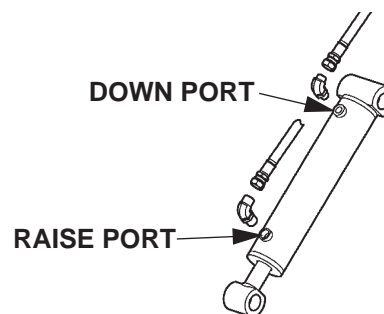

FIG. 74-3
3. Check the Hydraulic Cylinder. With the Platform on the ground, remove the hydraulic line from the Down Port of the Cylinder (**FIG. 74-3**). Raise the Platform even with the bed. Allow pump motor to run two seconds more while you watch for hydraulic fluid at the Down Port. A few drops of hydraulic fluid escaping the Down Port is normal; however, if it streams from the Down Port, Piston Seals are worn. Replace Seals.